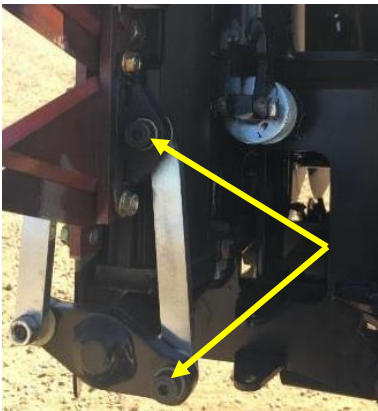

Figure 229
7. Install the connecting arms from the knives on the front of the shaft and tighten the bolts to 17 ft.lbs. Figure 229